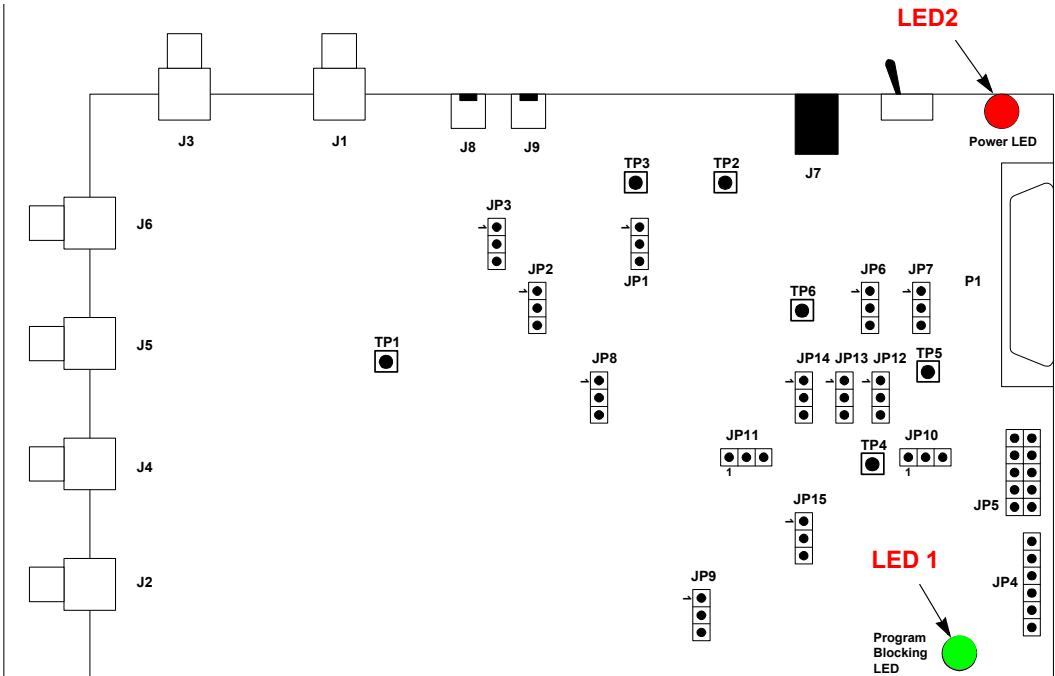

Figure 3. LEDs, Jumpers and Test Points
- Figure 3. LEDs, Jumpers and Test Points 5
Figure 3 depicts the Power LED, the Program Blocking LED, the jumper locations and test point locations.